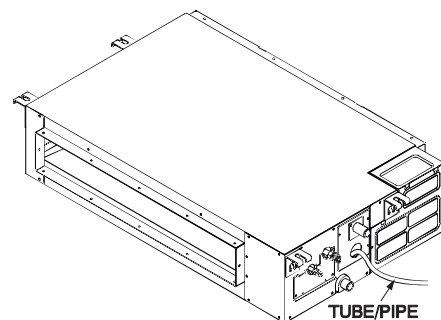

Fig. 39 — Tube Pipe Insert
2. Using a piece of tubing or pipe to fill the condensate lift pump reservoir with 70 oz. of water (see Fig. 39).